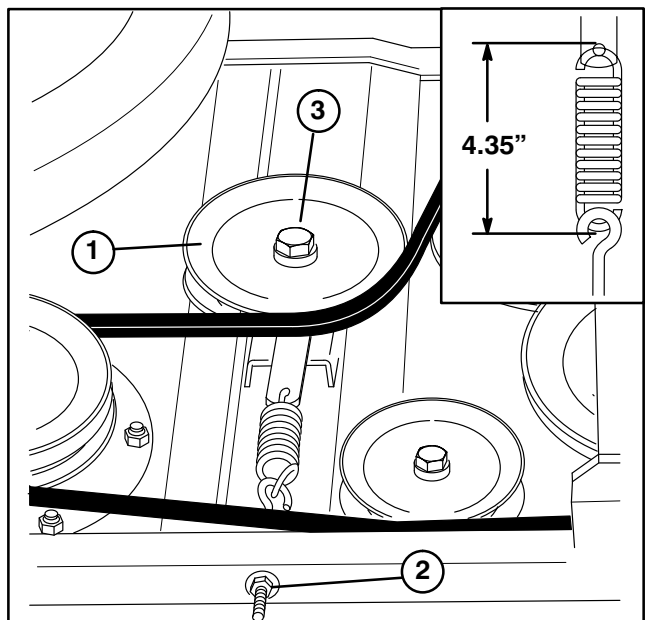

Figure 22
REPLACING DRIVE BELTS (Fig. 22–23)
6. Tighten spring tensioning nut until spring length is 4.35 inches outside spring loops (Fig. 22).